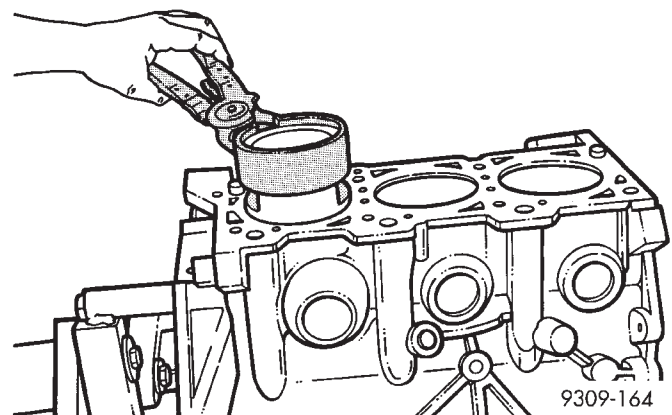

Fig. 94 Piston—Installation
(1) Before installing pistons and connecting rod assemblies into the bore, ensure that compression ring gaps are staggered so that neither is in line with oil ring rail gap.
(2) Before installing the ring compressor, make sure the oil ring expander ends are butted and the rail gaps located as shown in (Fig. 94).
(3) Immerse the piston head and rings in clean engine oil, slide the ring compressor over the piston and tighten with the special wrench. **Ensure position of rings does not change during this operation.**